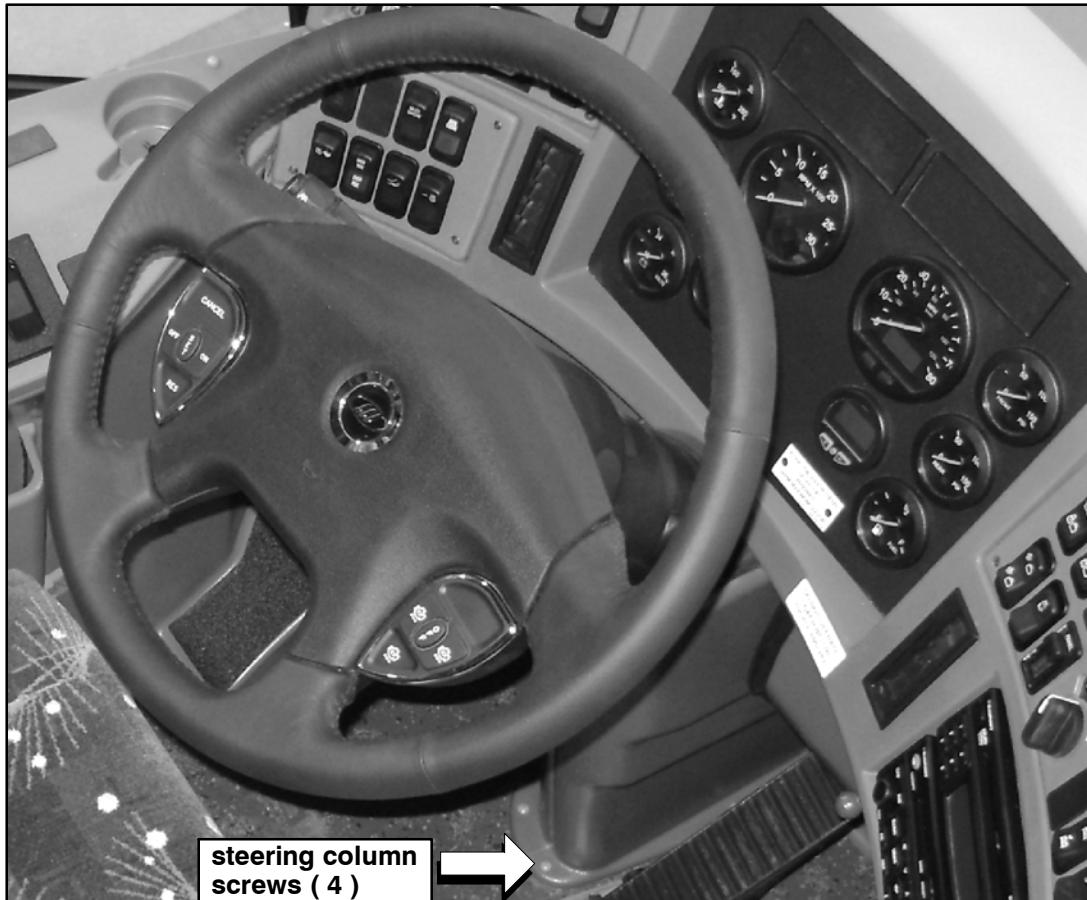

Figure 1.
2. Locate the steering column cover assembly below the steering wheel. Remove and retain the four (4) screws from the bottom of the steering column cover assembly (refer to Figure 1).